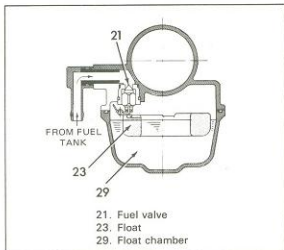

Figure 3-74. Carburetor Float System
The float system is shown in Figure 3-74. Fuel from gas tank passes through fuel valve (21) into float chamber (29). The fuel entering causes float to rise until it shuts off fuel valve, stopping flow at a level pre-determined by float level setting.